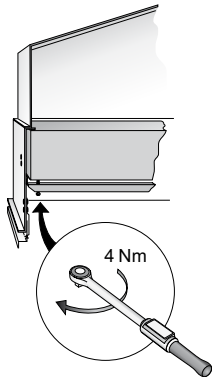

Figure 2. CDH, with rubber-sealed filter.
- Remove 4 M8x40 bolts from the U-beams that hold the filter against the air diffuser backing box, see figure 2. Install a new filter as described above but in the reverse order.